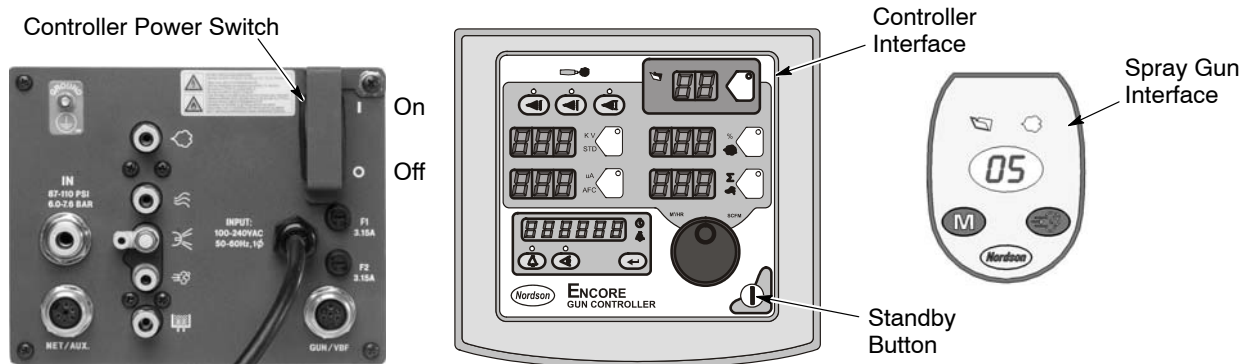

Figure 3-1 System Controls
4. See Figure 3-1. Make sure the spray gun is not triggered, then turn on controller power. The displays and icons on the controller interface and gun interface should light.
Use the **Standby** button shown in Figure 3-1 to shut off the interface and disable the spray gun during breaks in production. When the controller interface is off the spray gun cannot be triggered, and the spray gun interface is disabled.